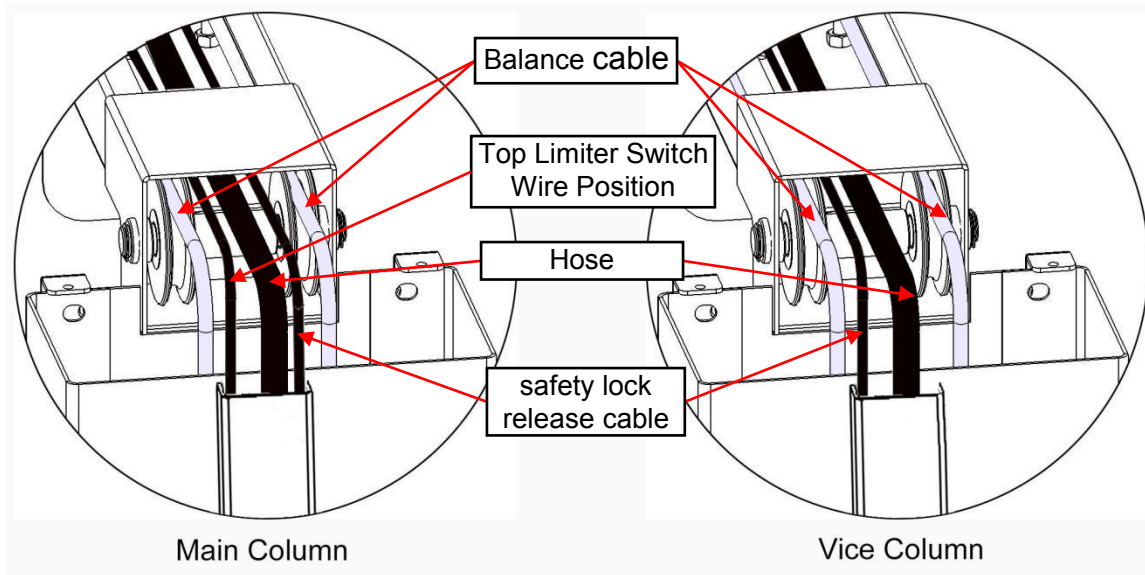

Fig 12 Safety Lock Release Cable & Hose & Top Limiter Switch Wire Position
1. Safety Lock Release Cable & Hose & Top Limiter Switch Wire Position (Fig 12)